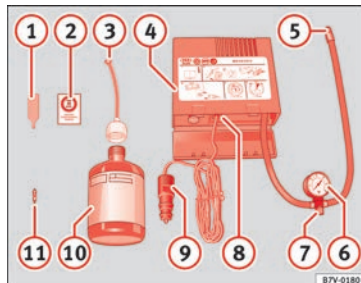

Fig. 48 Standard representation: contents of the anti-puncture kit.
- Unscrew the tyre valve cap and insert. Use the »»» Fig. 48  tool to remove the insert. Place it on a clean surface.
- Shake the tyre sealant bottle vigorously »»» Fig. 48 .
- Screw the inflator tube » Fig. 48 ③ into the sealant bottle. The bottle's seal will break automatically.
- Remove the lid from the filling tube » Fig. 48 ③ and screw the open end of the tube into the tyre valve.
- Place the insert back into the tyre valve using the tool » Fig. 48 ①.
- Screw the compressor tyre inflator tube » Fig. 48 ⑤ into the tyre valve.
- Check that the air bleed screw is closed » Fig. 48 ⑦.
- Insert the connector » Fig. 48 ⑨ into the vehicle's 12-volt socket » page 120.
- Turn the air compressor on with the ON/OFF switch » Fig. 48 ⑧.